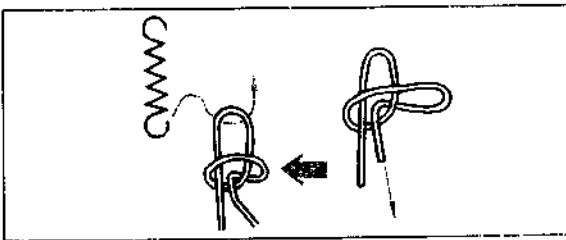

Fig. 2-5. Tying square knot at the coil spring
3. Tie the end of the cord to a spring as shown in Fig. 2-5.